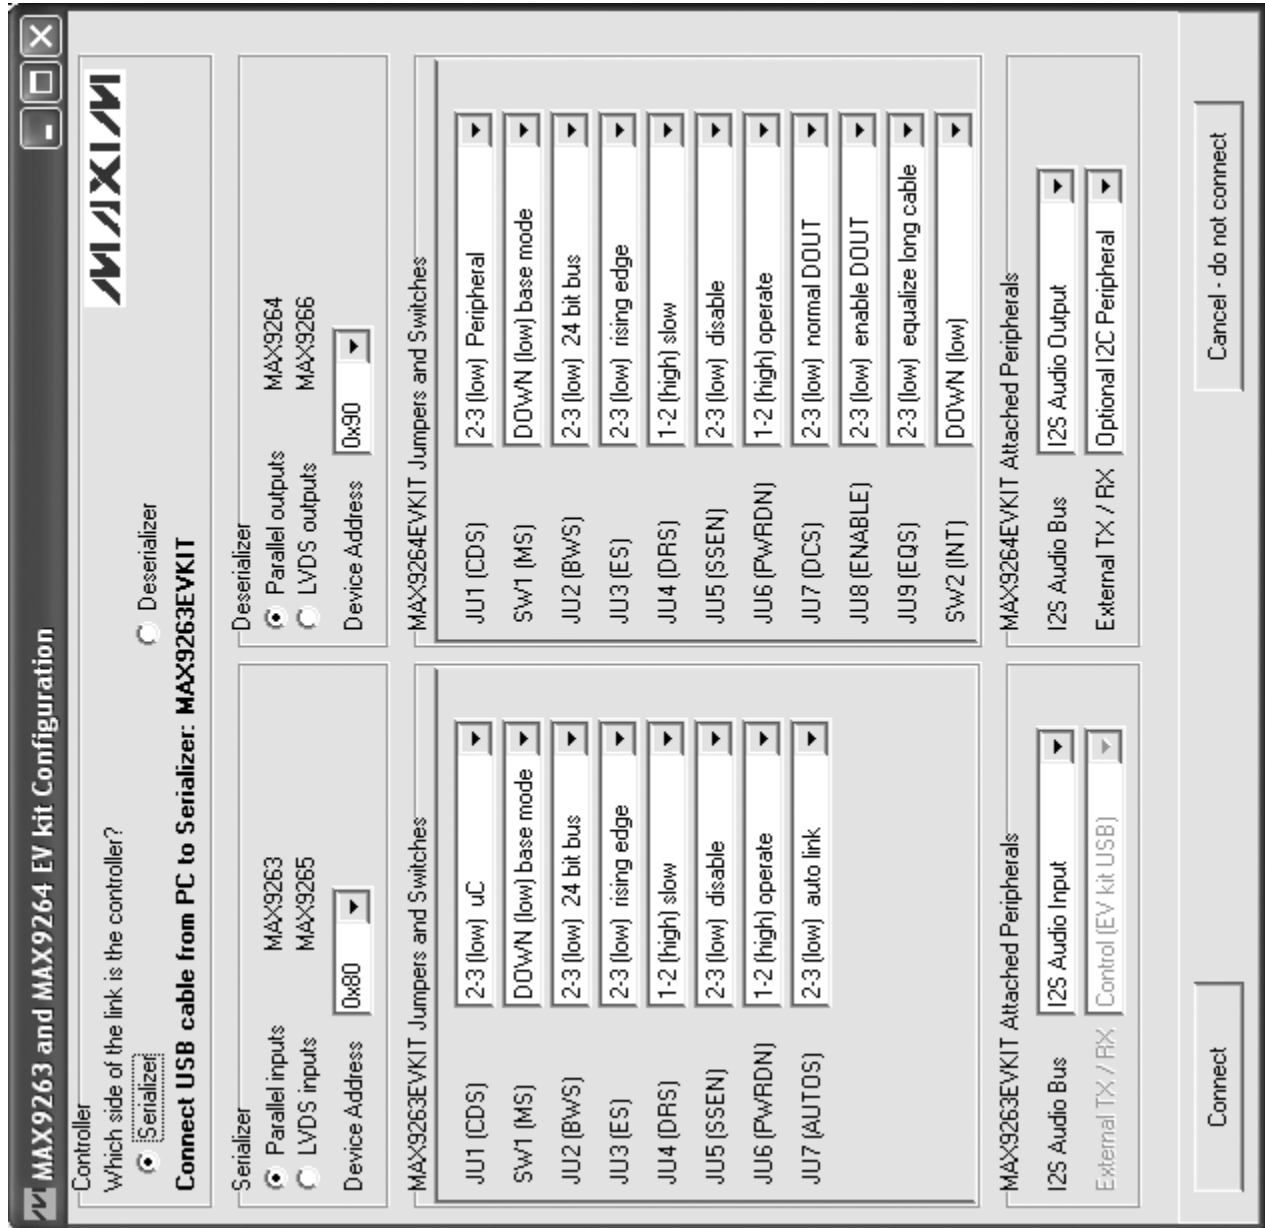

Figure 8. MAX9263/MAX9264 EV Kit Software Configuration Window
- 15.2) Start the MAX9264 EV kit software by opening its icon in the **Start | Programs** menu. The EV kit software configuration window appears, as shown in Figure 8.
The **Change Configuration** button brings up the software **Configuration** window (Figure 8), allowing the software GUI to select which side of the link the USB cable should be plugged into. Controlling from the MAX9264 side requires changing some jumper settings, as described in this window. If the MAX9263 and MAX9264 device addresses have been previously changed from their factory power-on-reset (POR) values, the new addresses must be specified in the software **Configuration** window to allow register access.